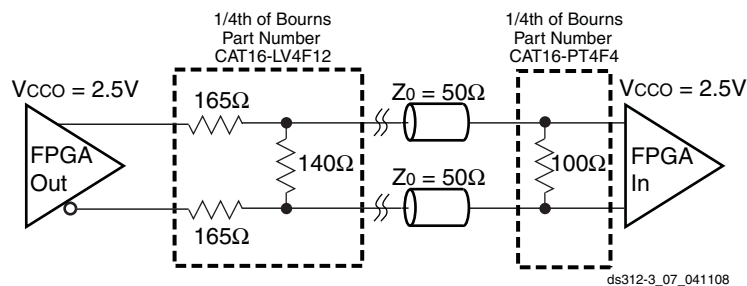

Figure 71: External Termination Resistors for BLVDS Transmitter and BLVDS Receiver
- Output voltage measurements for all differential standards are made with a termination resistor ( $R_T$ ) of 100 $\Omega$  across the N and P pins of the differential signal pair. The exception is for BLVDS, shown in Figure 71.